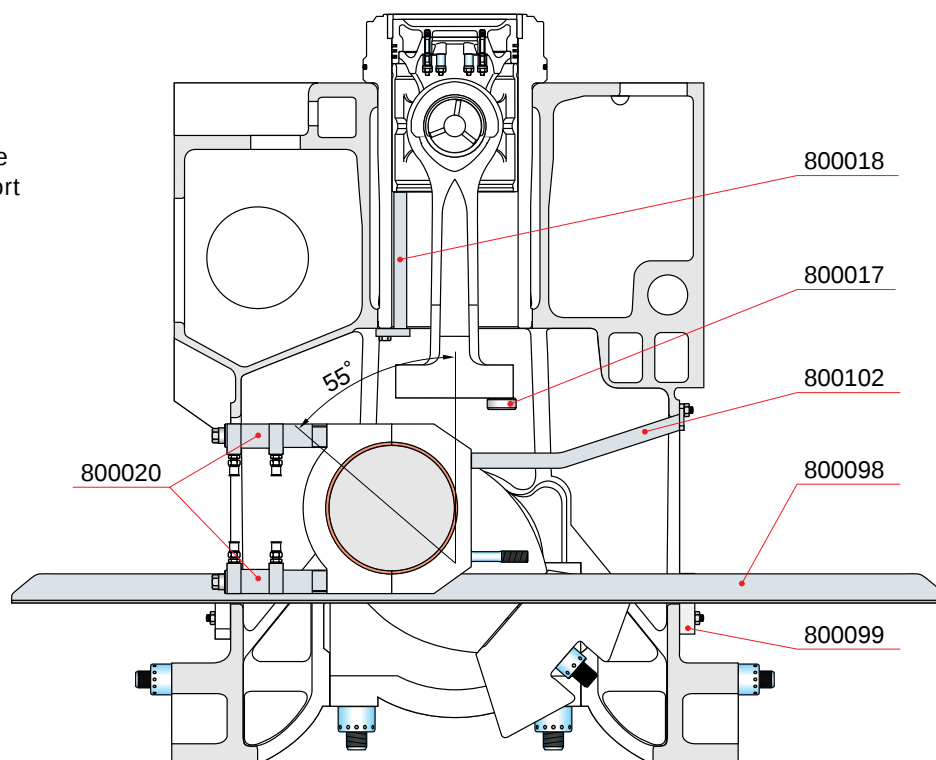

Fig 11-5
9 Mount the limiter 800018 in the lower part of cylinder liner and tighten the screw, see Fig 11-5.
13 Mount the mounting support 800102 on the upper stud of the crank case cover, see Fig 11-5. Tighten the nut.
- 19** Mount the supporting plate 800099 on the rear side of the engine on the lower crank case cover studs and tighten the nuts, see Fig 11-5.
5 Mount the mounting flute through the crank case openings on the crankcase cover lower studs and tighten the nuts, see Fig 11-5.
15 Mount the mounting support 800102 on the upper crank case stud, see Fig 11-5. Tighten the nut.
23 Mount the guiding plug 800017 in the screw hole on the upper part of the connecting rod, see Fig 11-5.